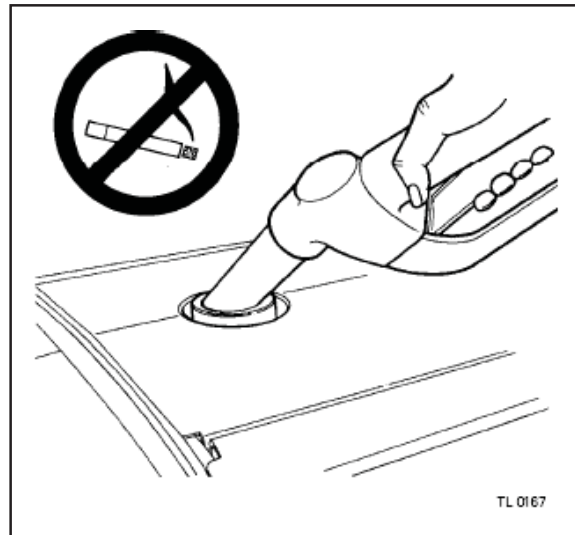

Fig. 8
- \***DO NOT** smoke while refuelling the tractor. Keep any type of open flame away (Fig. 8).